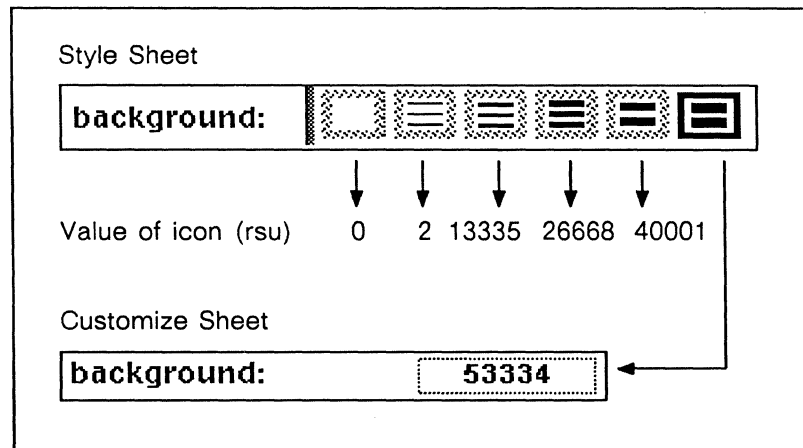

Figure 29-15. Numeric value of background icons
**Background.** On the Style sheet for a line or bar chart you can select one of six icons to determine the thickness of background lines. Each of these icons represents an rsu value on the Customize sheet (Figure 29-15). To produce thicker background lines or ones with a thickness not available through the Style sheet, modify the numeric value for *background* on the Customize sheet.